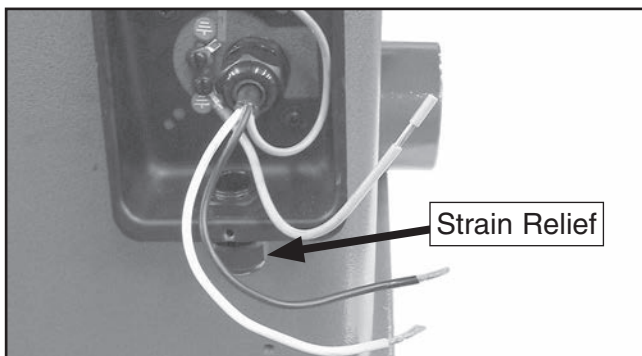

Figure 45. Power connection junction box.
2. Loosen the strain relief on the bottom of the junction box shown in **Figure 45**, then insert the incoming power wires into the junction box.